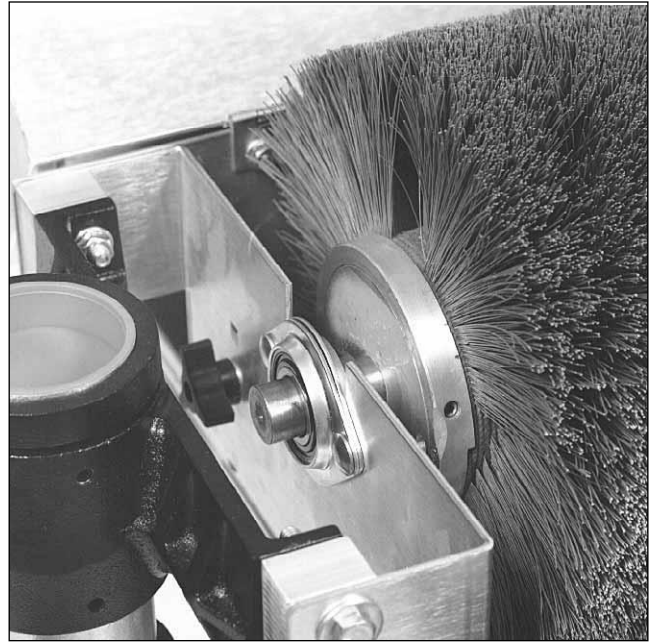
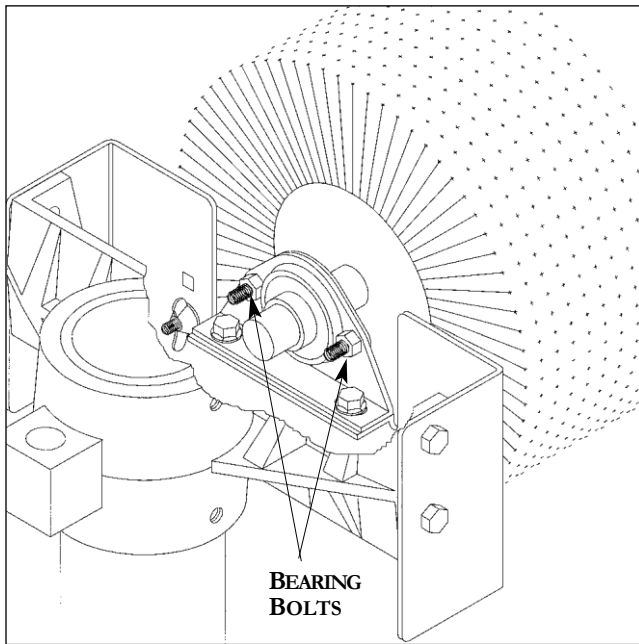

Fig. 19. Removing brush head.
Fig. 25. Supporting brushes to remove bearings.
Changing the brush on the SUPERBRUSH is relatively simple. To begin, first disconnect power source to the machine. Lower the motor to its lowest position using the brush speed control handle. Raise the motor to its highest position. This loosens the V-belt tension so the V-belt can be lifted off the driven pulley, pulled back and placed under the control handle to hold it out of the way. Loosen and remove bearing bolts (Fig. 19 and 19A, depending on model. See also page 23 and Fig. 25.) Lift brush out of machine. Loosen set screws of bearing collars and pulley. Remove bearings and pulley and install on replacement brush.
Step 1. Loosen the set screws in the bearing collar. Leave the set screw wrench in one of the set screws. Then rotate the brush within the bearing and tighten the set screws (Fig. 19 and 20).
2. Remove the bearing bolts (Fig. 19, 19A and 25) and lift brush out of machine. **Note:** Some models have two mounting bolts attaching the bearing housing down into the brush support bracket. These two bolts can be used to remove the brush head instead of the bolts through the bearing flange.